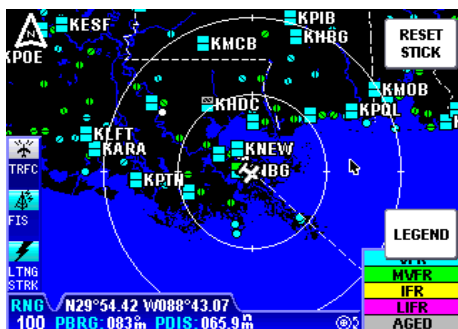

Figure 2-31
3. To view a specific METAR, move the joystick in the desired direction. A pointer will appear on the display. The distance and bearing between present position and the pointer is shown at the bottom center of the display (see Figure 2-31). As the joystick is held the pointer will continue to move. When the pointer reaches the edge of the display the map will pan to keep up with pointer movement. Release the joystick to stop moving the pointer. When the pointer moves over a graphical METAR icon, a box will pop up containing the **IDENT**, **NAME** and **CITY/STATE**